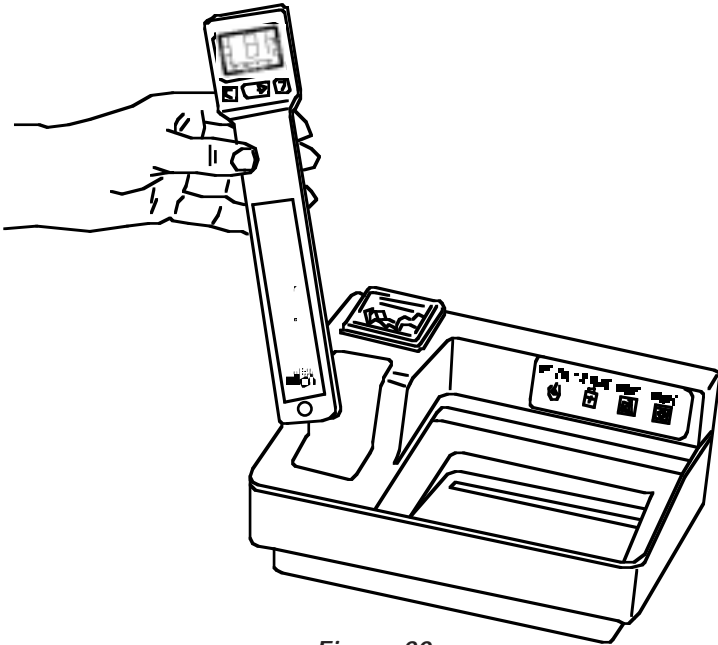

Figure 20
1. Place the MicroTymp 2 Handle in the well with the Liquid Crystal Display (LCD) and buttons facing you. See **Figure 20**.